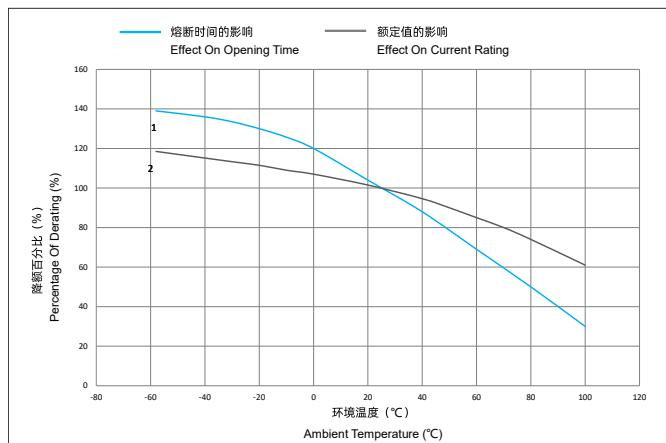

图1 FIGURE 1
- 图1表示环境温度对传统慢断及中等慢断型熔断器承载能力及 $5I_N$ 熔断时间的影响。
Fig.1 effect on rating and opening time in  $5I_N$  of traditional time-lag and medium Time-Lag fuse.